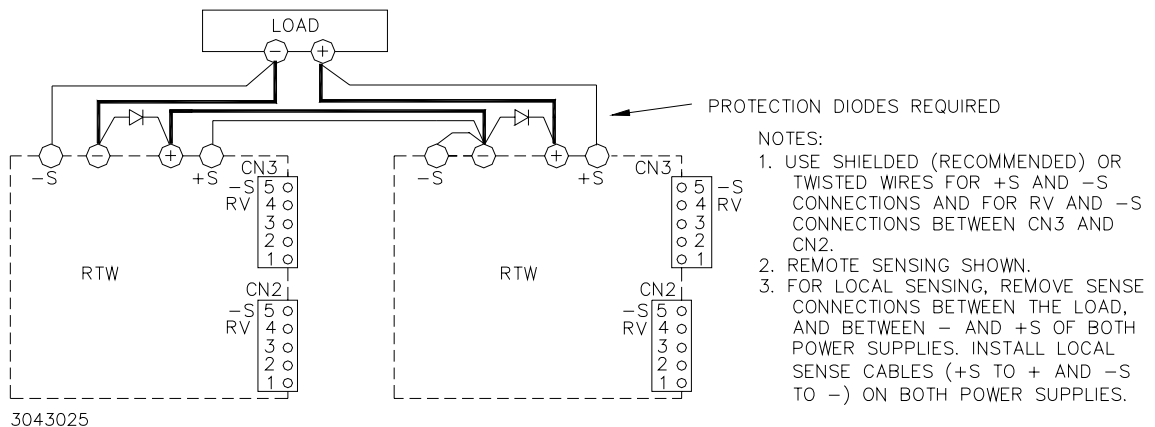

FIGURE 11. SERIES CONNECTION
Units may be connected in series to obtain higher voltages. When a number of power supplies are operating in series, the current rating is to be limited to the rating of the power supply with the lowest rating. Each Power Supply in series should be protected by a diode connected in parallel with the output as shown in Figure 11. The diode protects against reverse voltages. It should be rated for typically, $V_{REVERSE} \geq 2 \times \sum V_{OUT}$ of the series connection, $I_{FORWARD} \geq 2 \times I_{OUT}$ of the series connection. Optional Cable Kit 219-0497 (PAR. 6.6) may facilitate CN2/CN3 connections, however the wire at pin 3 (CB) must be cut.